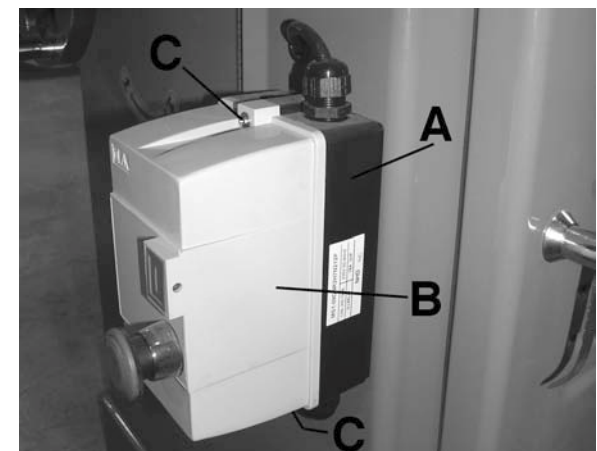

FIGURE 6
- 1) The magnetic switch (A) Fig.6 gets installed to the right side of the cabinet, below the forward/reverse switch.
- 2) First the magnetic switch cover (B) must be removed by unscrewing the two Phillips head special screws (C). Note: These two specially designed Phillips head screws are designed not to be removed. Unscrew them until the cover comes off.